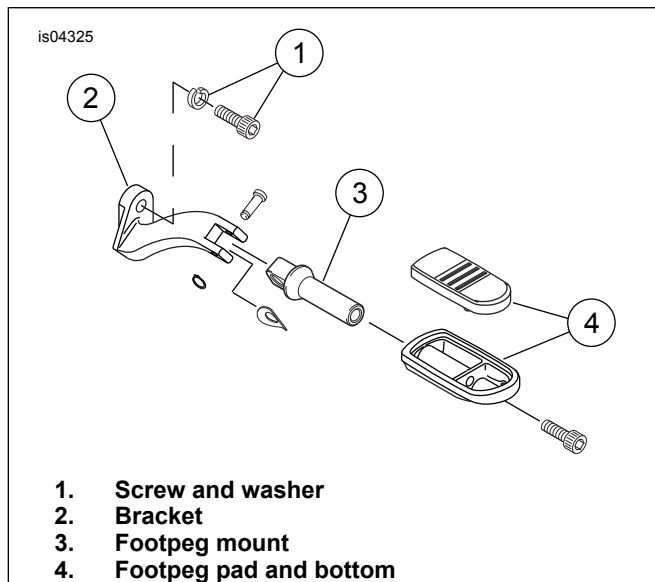

Figure 1. Passenger Footpeg Components (FLHX)
1. See Figure 1. Remove existing passenger footpegs or footboards, brackets and mounting hardware.